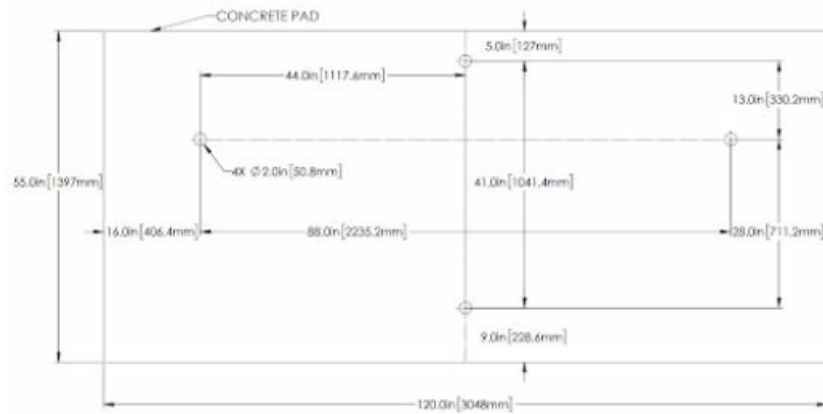

Figure 1: Hole Locations for a Standard Dual Lane System
- **Figure 1:** Hole Locations for a Standard Dual Lane System